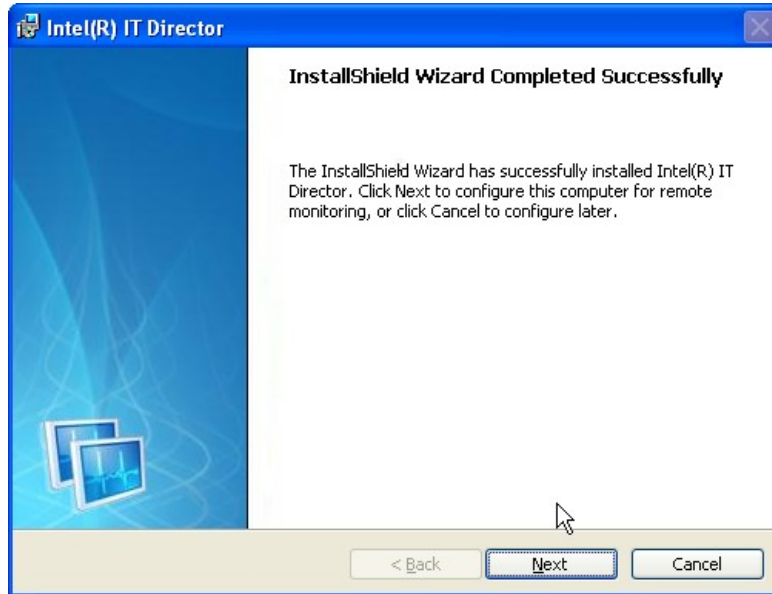

Figure 6-37: IT Director Installation Complete
Step 14: When the driver installation is complete, the screen in **Figure 6-37** appears.